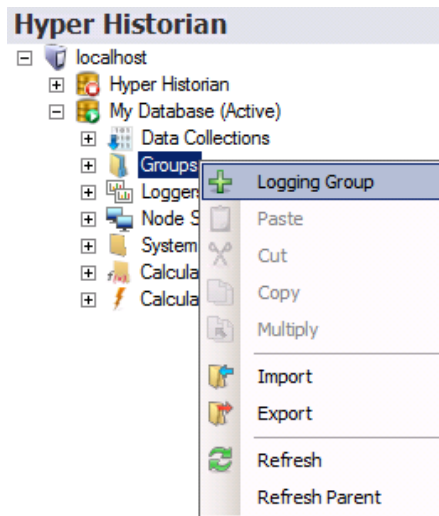

Figure L3.1 - Adding Logging Group
2. Right-click the **Groups** node in the Project Explorer and select **Logging Group**, as shown in Figure L3.1.